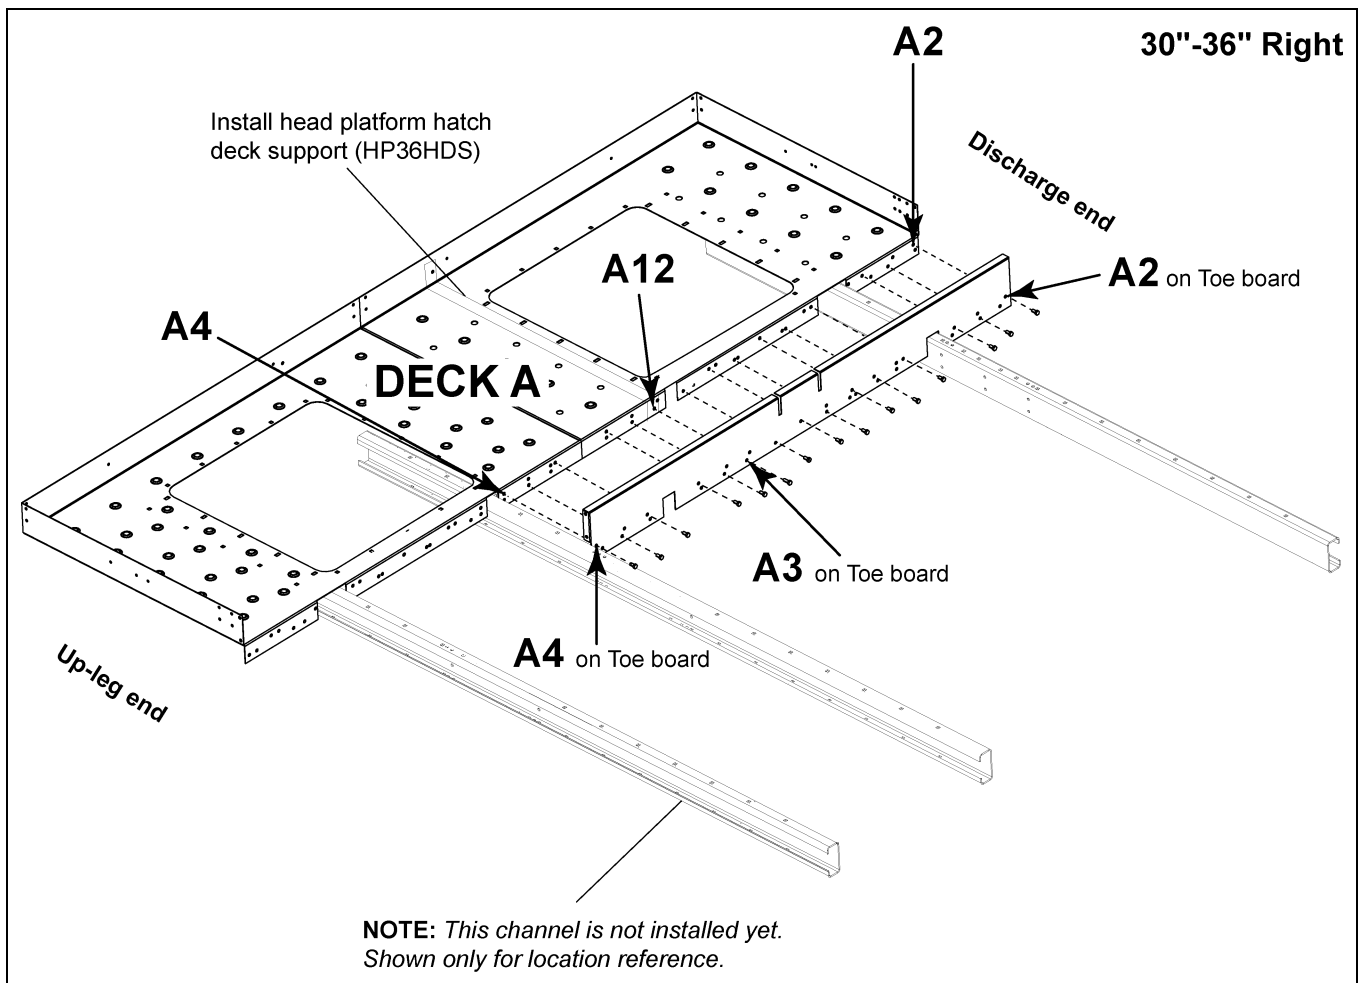

Figure 8I
- e. For both 30" and 36" - Deck hole **A2** to toe board hole **A2**. (See Figure 8I on Page 53.)
NOTE: At this time, the head platform hatch deck support (HP36HDS) should be installed **UNDER** Deck A. Line this up with hole **A12** on the deck flange near hatch opening and install at the same time attaching deck to toe board. (See Figure 8I on Page 53.)
- b. Deck hole **A4** to toe board hole **A4**. (See Figure 8I on Page 53.)